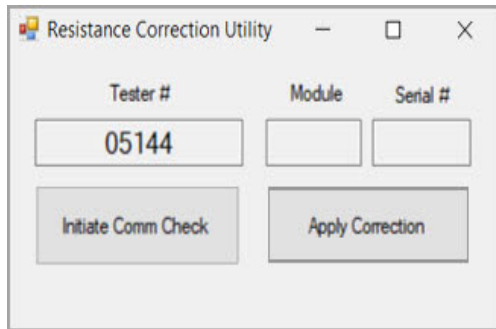

Figure 4
10. Successful communication is indicated by the illumination of the LED light surrounding the MCE test lead connector on the MCE tester and the tester number displaying in the Tester # text box. Shown in Figure 4.